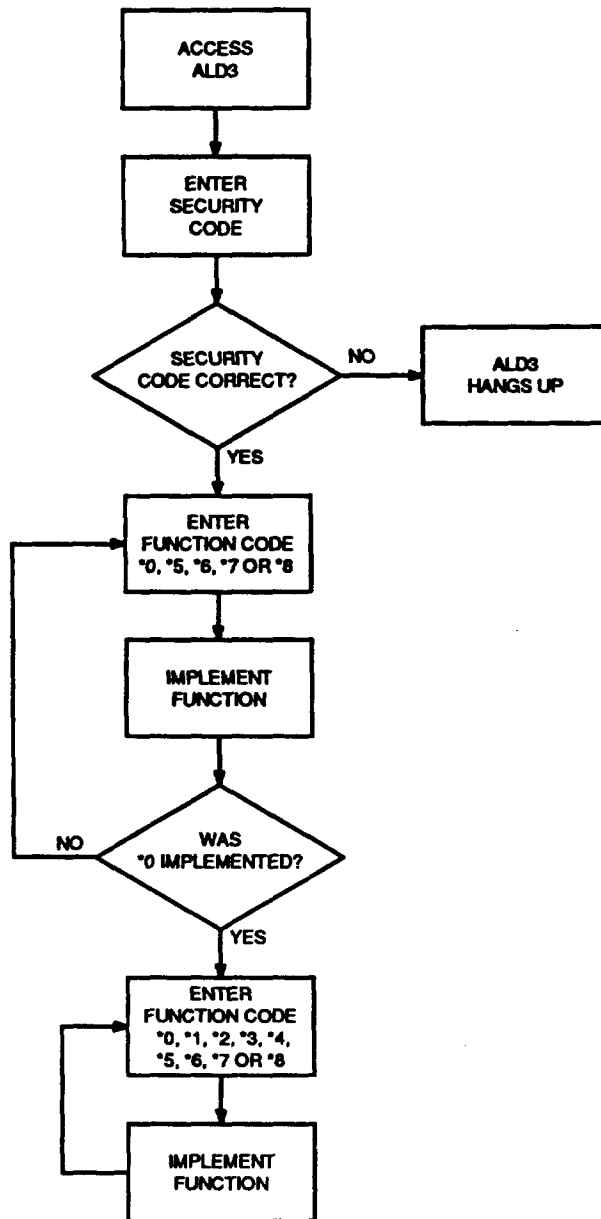

Figure 7. Telco User Flowchart
9.03 The following procedure describes how the Telco user accesses the ALD3. After accessing the system, an announcement channel must be selected before the SIT Select, Record, Playback, or Diagnostic functions can be executed. The Telco and Commercial Security Code Assignment, ALD3 Reset, and Exit ALD3 - Access Concentrator functions can be executed without selecting a channel. Figure 7 is a Telco User Flowchart.